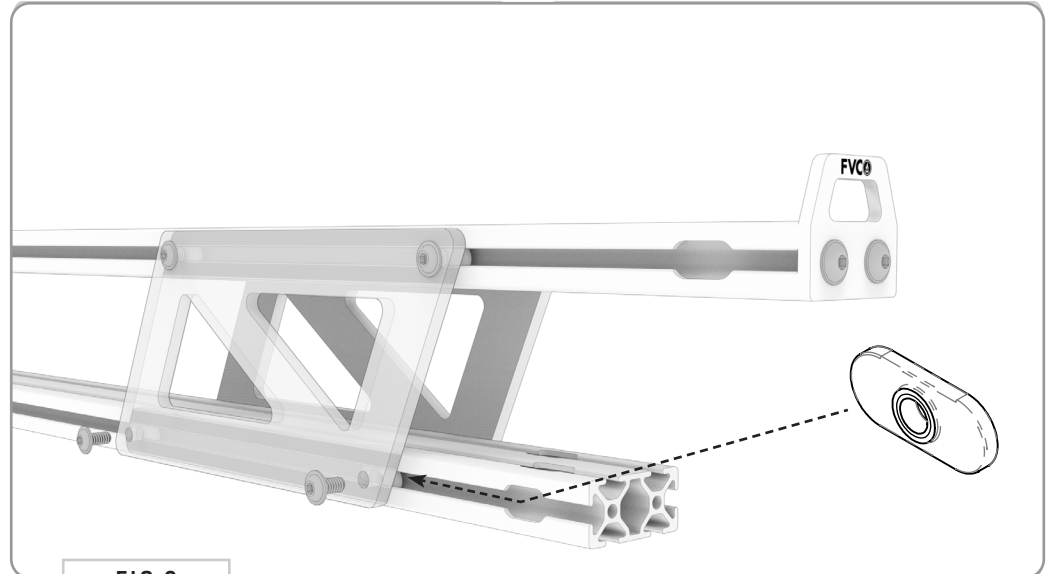

FIG 6
3.1 Insert T-Nuts: Slide (2) 1/4-20 T-Nuts into the cutouts of the Rack Crossbar (FIG 6).